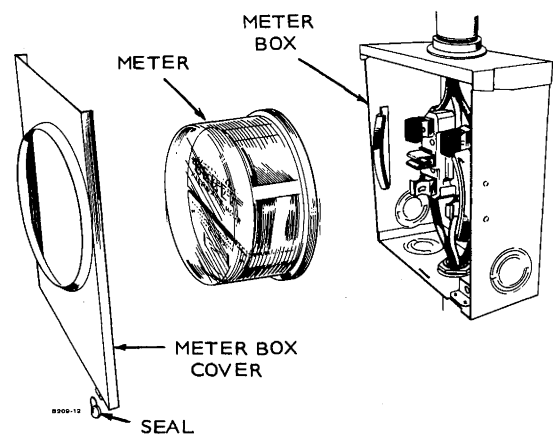
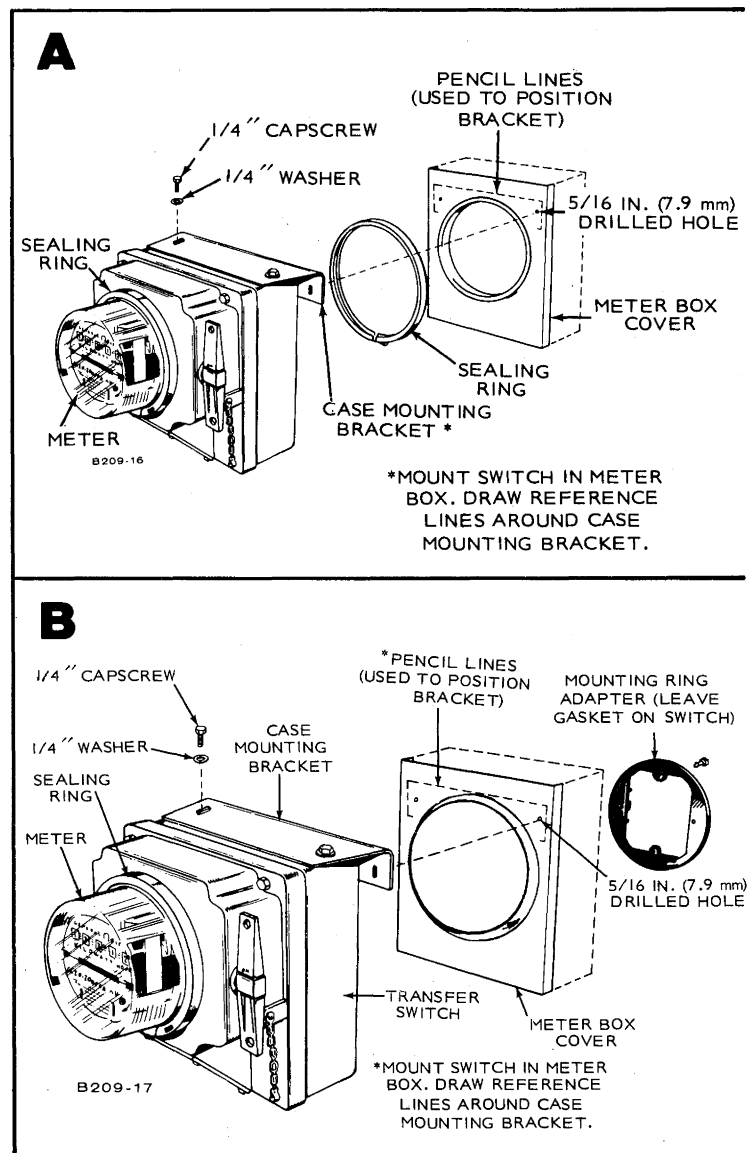

FIGURE 2
FIGURE 6
- B. Remove meter by pulling out, up, and down (not to sides). Meter box in Figure 2 also requires removal of meter box cover.
- For a meter box as shown in Figure 2, remove the mounting ring adapter from transfer switch (leave on gasket). See Figure 6. Put meter box cover on transfer switch and remount adapter.
- Mark two hole locations and drill 5/16-inch (7.9 mm) holes. See Figure 6. Clean away any burrs.